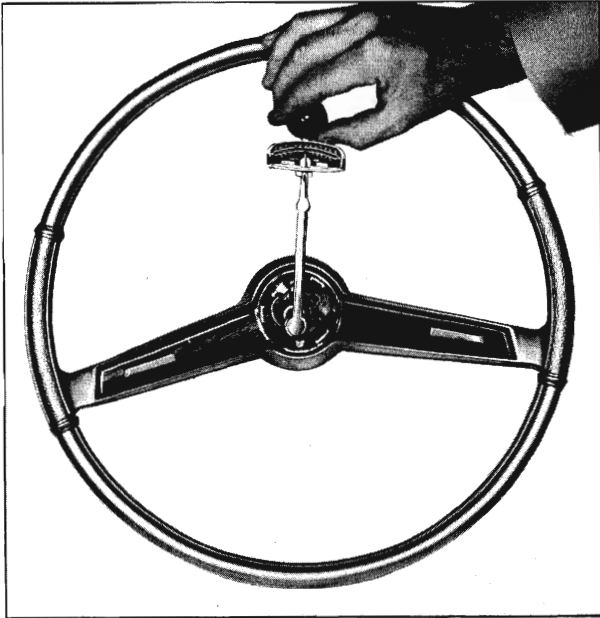

Fig. 4-206 Checking Worm Bearing Preload
3. Using an inch pound torque wrench, measure the pull required to keep the wheel in motion at about 30° off the straight ahead position. (Fig. 4-206)